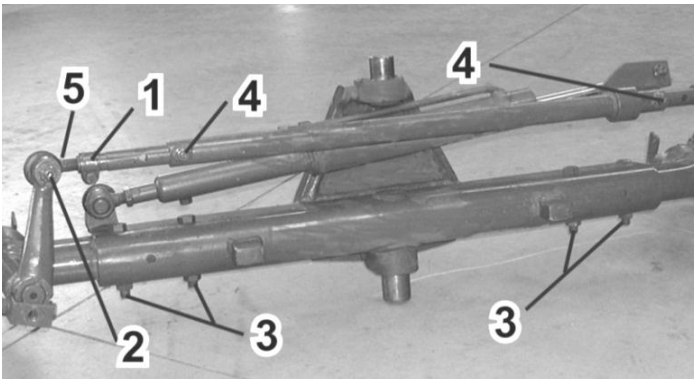
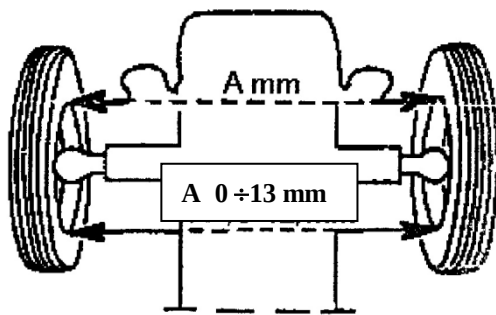

Fig. 5.6.5. Front non-driven axle
Fig. 5.7.3. Non-driven axle toe-in adjustment
- unscrew the nuts and remove the bolts 4 (Fig. 5.6.5) retaining the track rod center sleeve from either side,
- refit and tighten the retaining bolts 4 (Fig. 5.6.5),
To adjust non-driven axle toe-in (Fig. 5.6.5 and Fig. 5.7.3) :
Measure distance between points on rims at front (before axle) - dimension "A", and then at the back (after axle) after rotate the wheels about half a turn, 180° (Fig. 5.7.3) ;